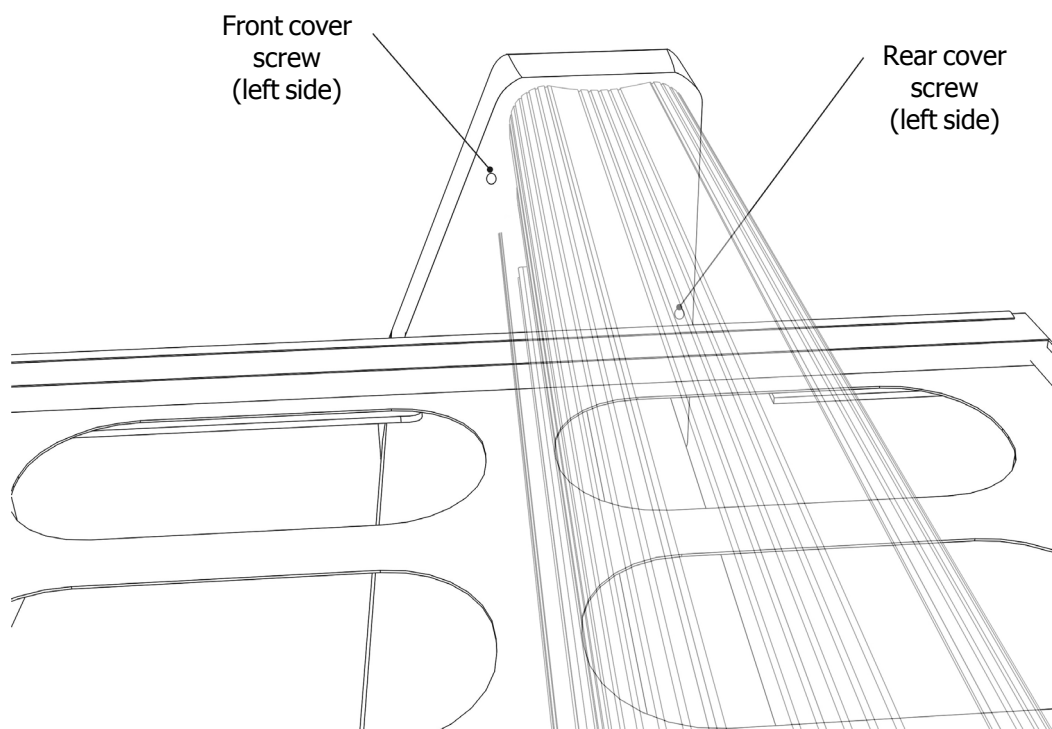

**Fig. 5-3** Left side cover screws (Phillips head)
3. Remove the two phillips head screws and remove the left cover. *See figure 5-3 on the next page.*